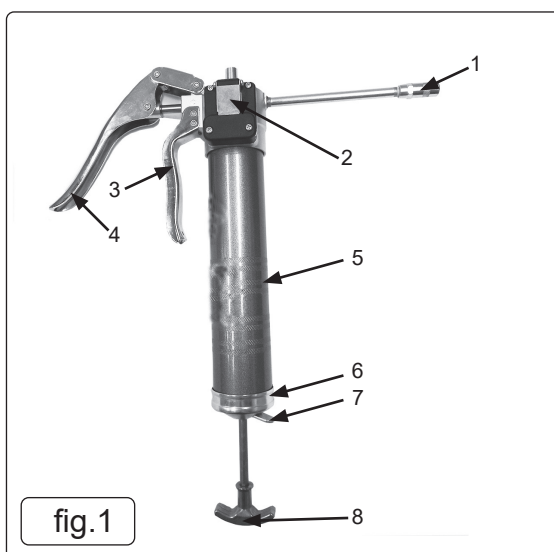

fig.1
- 4.1.1. Raise quick release mechanism cover (fig.1) and depress and hold the trigger.
- 4.3.2. Slowly pull back the plunger handle (fig.1) to pull the grease into the barrel. Lock the rod with the tab (fig.1).